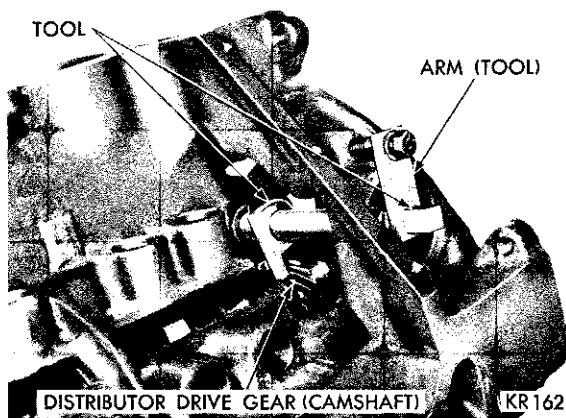

Fig. 29—Camshaft Holding Tool C-3509
(1) Lubricate the camshaft lobes and camshaft bearing journals and insert the camshaft to within 2 inches of its final position in the cylinder block.
(2) Modify Tool C-3509 by grinding off the index lug holding the upper arm on the tool and rotate the arm 180 degrees.
(3) Install Tool C-3509 in place of the distributor drive gear and shaft, as shown in Figure 29.
(4) Hold the tool in position with the distributor lock plate screw. This tool will restrict the camshaft from being pushed in too far and prevent knocking out the welch plug in the rear of the cylinder block.